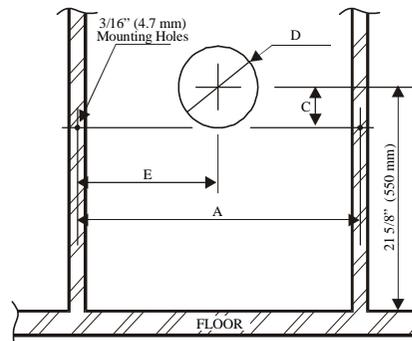

Figure 4
**Note:** the figure 4 gives the required dimensions for mounting the unit, in the event that the template is unusable or lost.